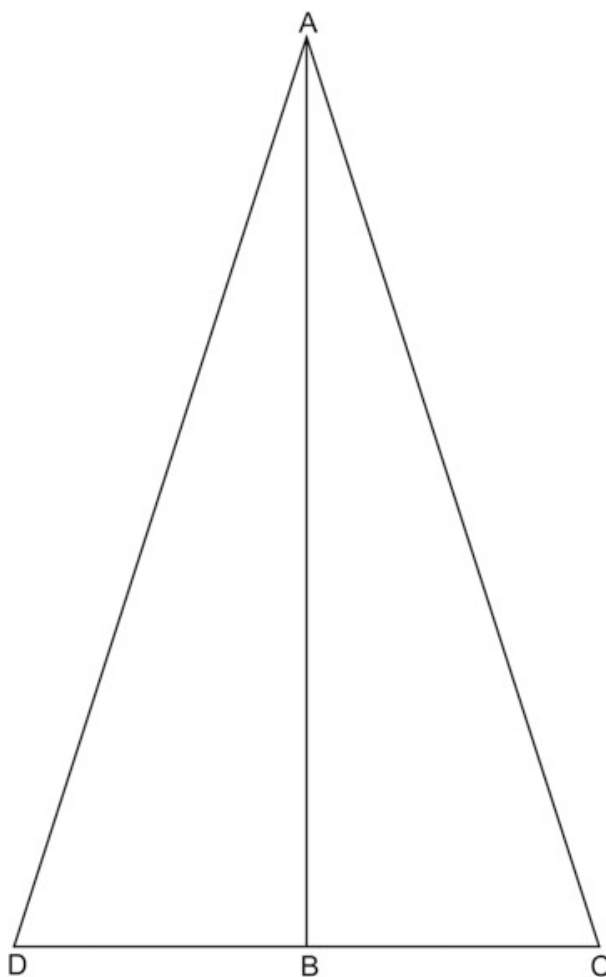

Figure 3-2. Isosceles triangle.
A triangle is a three-sided plane figure, such as that shown in figure 3-2. The sides of a triangle are the lines that enclose it, and the sum of the included angles is always  $180^\circ$ . The base of a triangle is the side upon which it is supposed to stand; therefore, any side may be the base. The angle opposite the base is called the vertex angle, which is the point opposite to the base and farthest from it. The altitude or height of a triangle is the perpendicular distance from the base to the vertex. In figure 3-2, A is the vertex angle, line DC is the base, lines AD and AC are the sides, and line AB is the altitude. The triangle illustrated in figure 3-2 is an isosceles triangle, in which two sides are equal, as shown by DAC. Side DA is equal to side AC. The unequal side (DC) of an isosceles triangle we usually call the base.